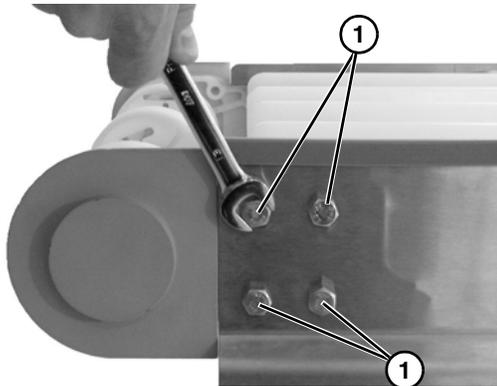

Figure 43
2. Remove four head plate bolts (Figure 43, item 1). Repeat on opposite side.